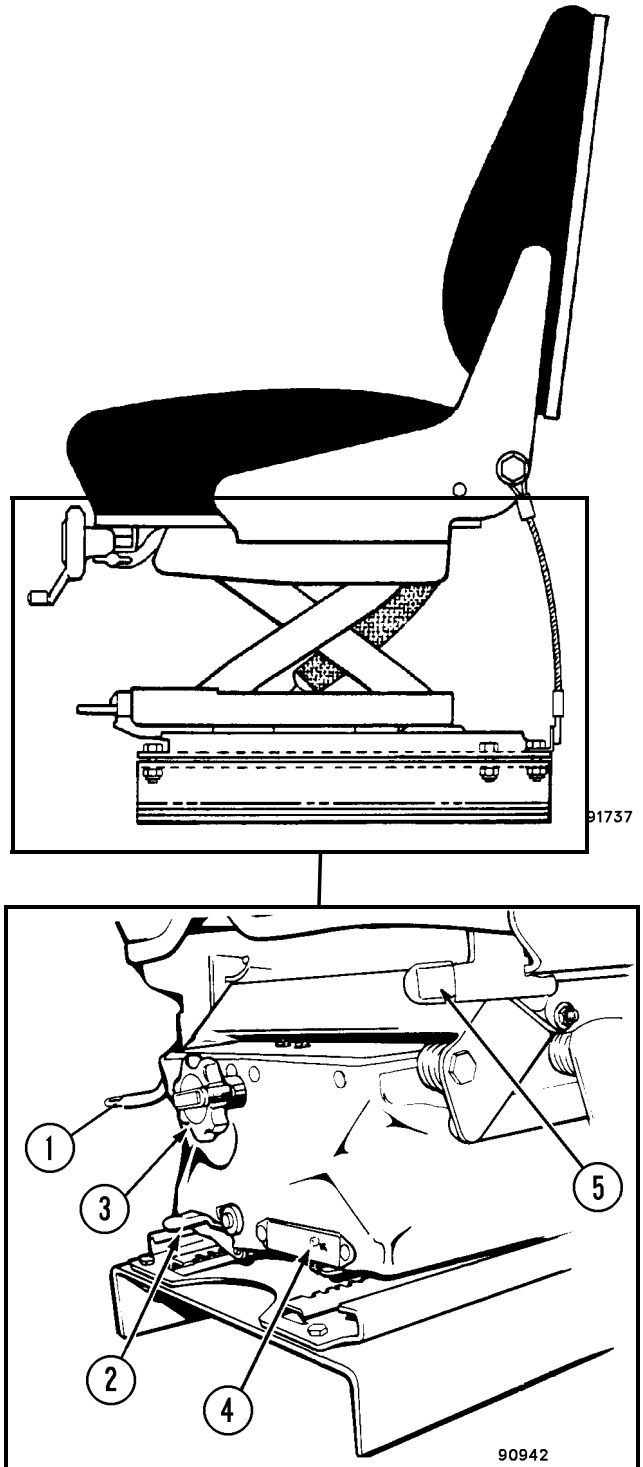

FIGURE 3-5. SEAT ADJUSTMENT CONTROLS
- a. Raise adjustment lever "Lift to Slide" (2, Figure 3-5).
- a. Depress the "Height Adj. Push" lever (1).
- a. Turn knob "Weight Adjust" (3).
- c. Proper adjustment results in Weight Indicator (4) being flush with seat base while operator is seated.
- a. Raise "Cushion Tilt Latch" lever (5) on left side of seat.